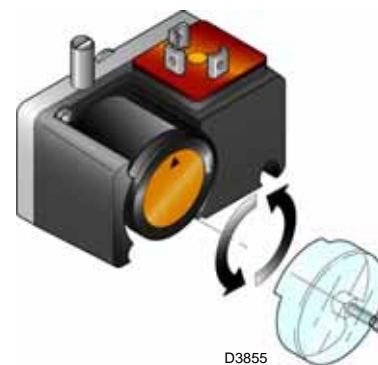

Fig. 33
- Adjust the pressure switch for the valve leak detection control device (PVP kit)(Fig. 33 at page 33), if present, according to the instructions supplied with the kit itself.
Adjust the pressure switch for the valve leak detection control device (PVP Kit)(Fig. 33), if present, according to the instructions supplied with the Kit itself.